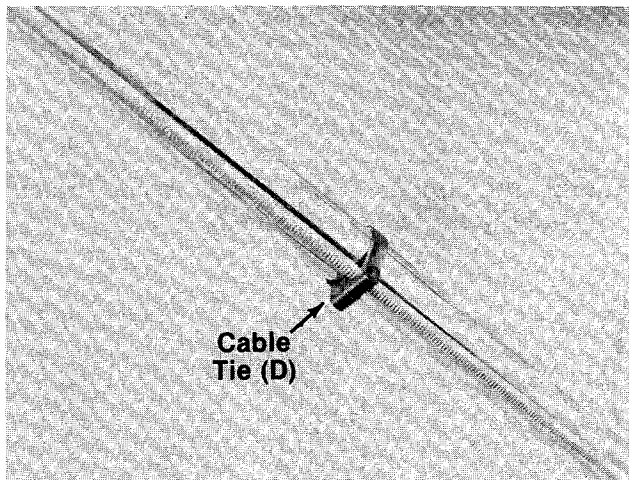

FIGURE 5.
- ← 6. Secure throttle control wire to upper and lower handles with cable ties (D). See figure 5.